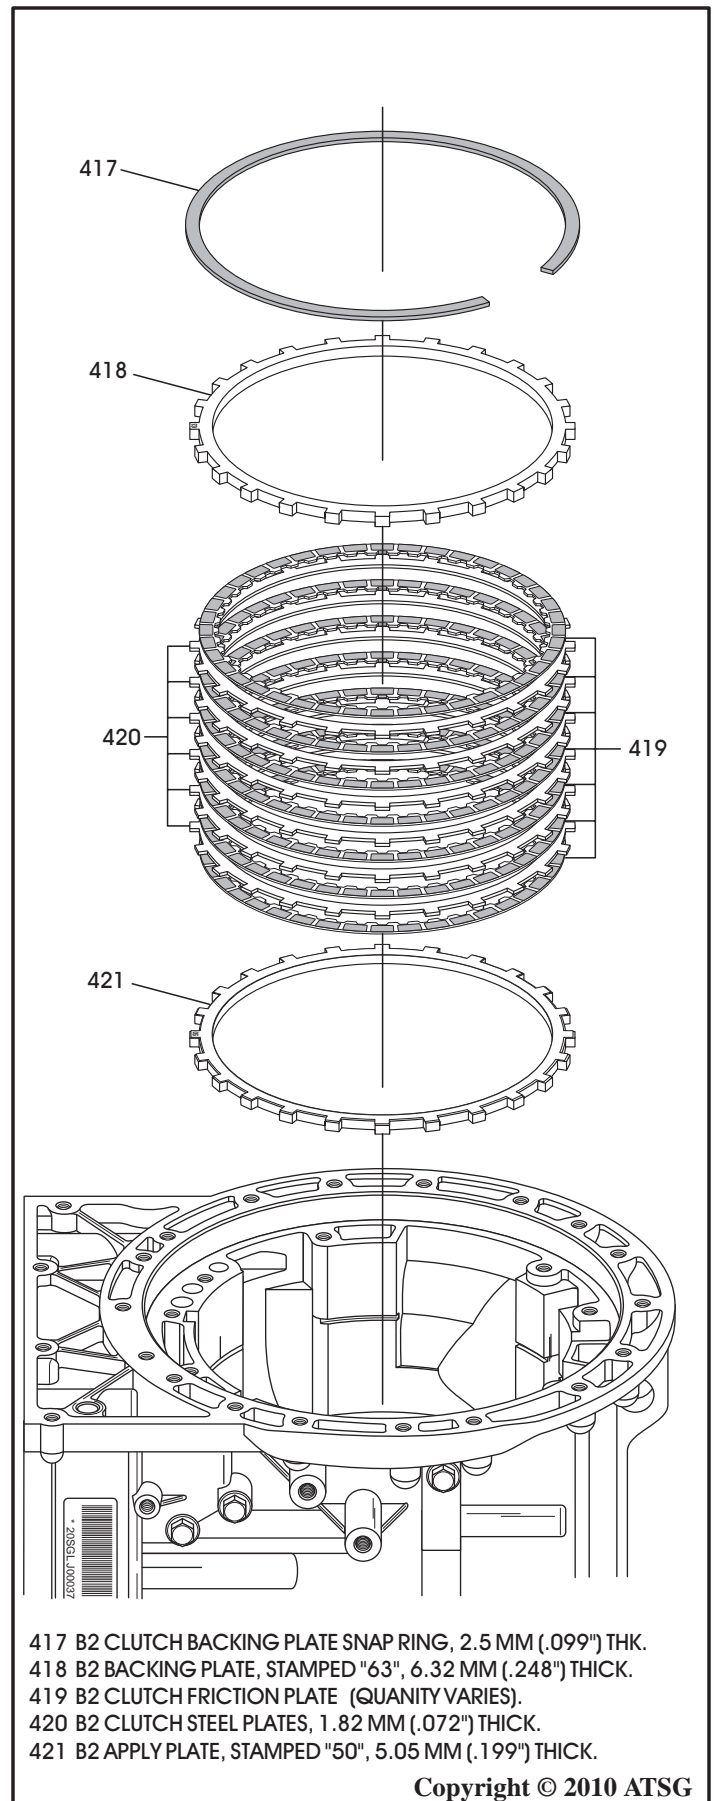
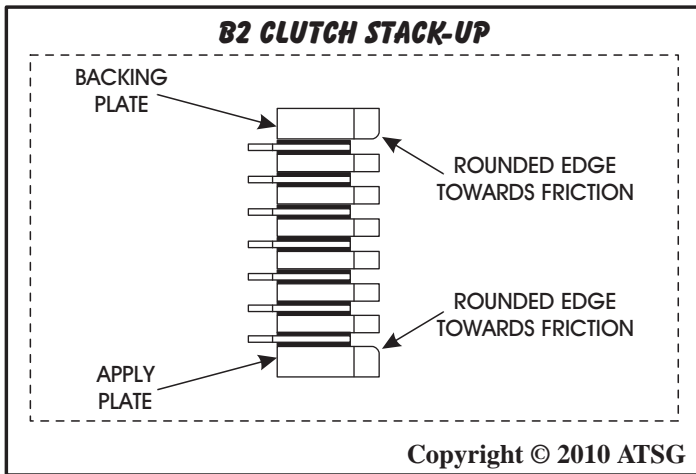

Figure 204
Figure 205
6. The entire B2 clutch pack must be **temporarily** installed, as shown in Figure 204, to verify the B2 clutch clearance.
7. Install the B2 clutch apply plate, as shown in Figure 204, with the "rounded" edge facing up towards the friction, as shown in Figure 205.
8. Install B2 clutch plates beginning with a friction and alternating with the steel plates, as shown in Figure 204, until you have the proper amount installed as quantity may vary.
9. Install the B2 clutch backing plate, as shown in Figure 204, with "rounded" edge facing down toward the last friction, as shown in Figure 205.
10. Install the B2 clutch backing plate snap ring, as shown in Figure 204, and ensure fully seated.